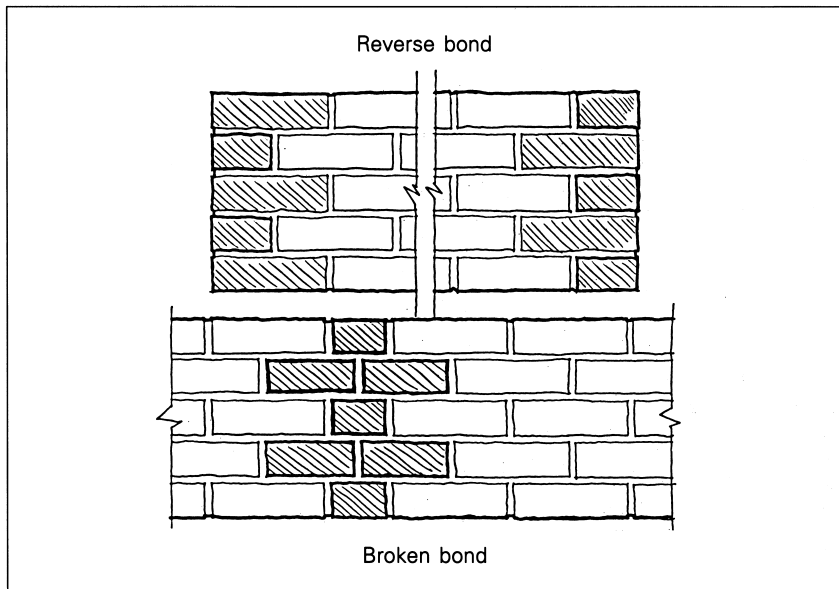

Figure 8.11 Broken bond or reverse bond?
5. If broken bond is undesirable then an exception to the rule is the introduction of 'reverse bond'. This where the bricks at each end of a course are not symmetrical. It should only be used on less important work or by agreement with the supervisor. (See figure 8.11)